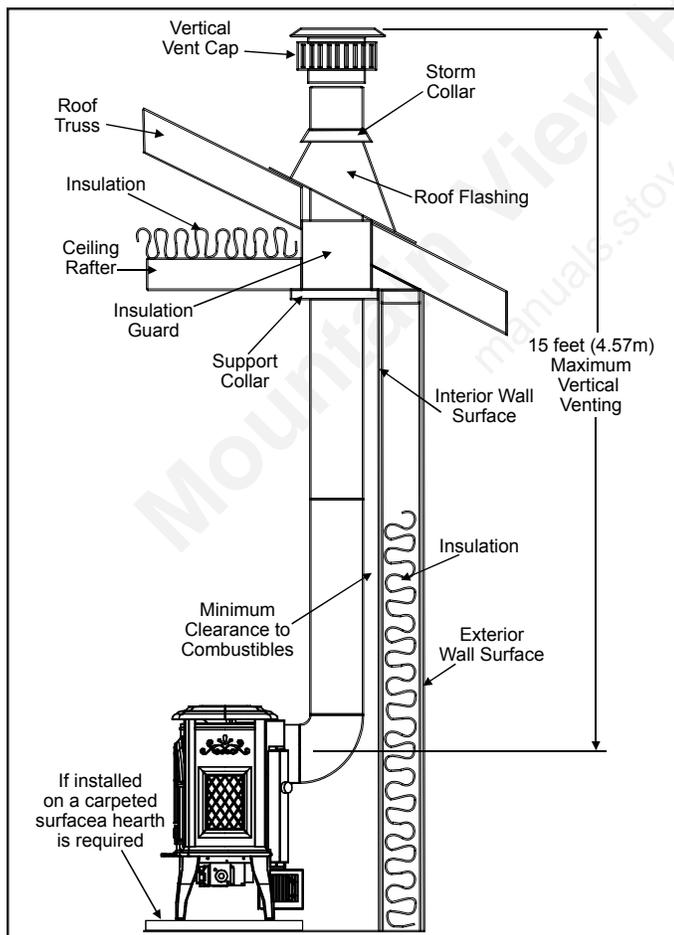

Figure 29: Vertical Installation.
3. To install the Round Support Box/Wall Thimble in a flat ceiling, cut a 10 inch (25.4 cm) square hole in the ceiling, centered in the hole drilled in Step 2. Frame the hole as shown in Figure 29.